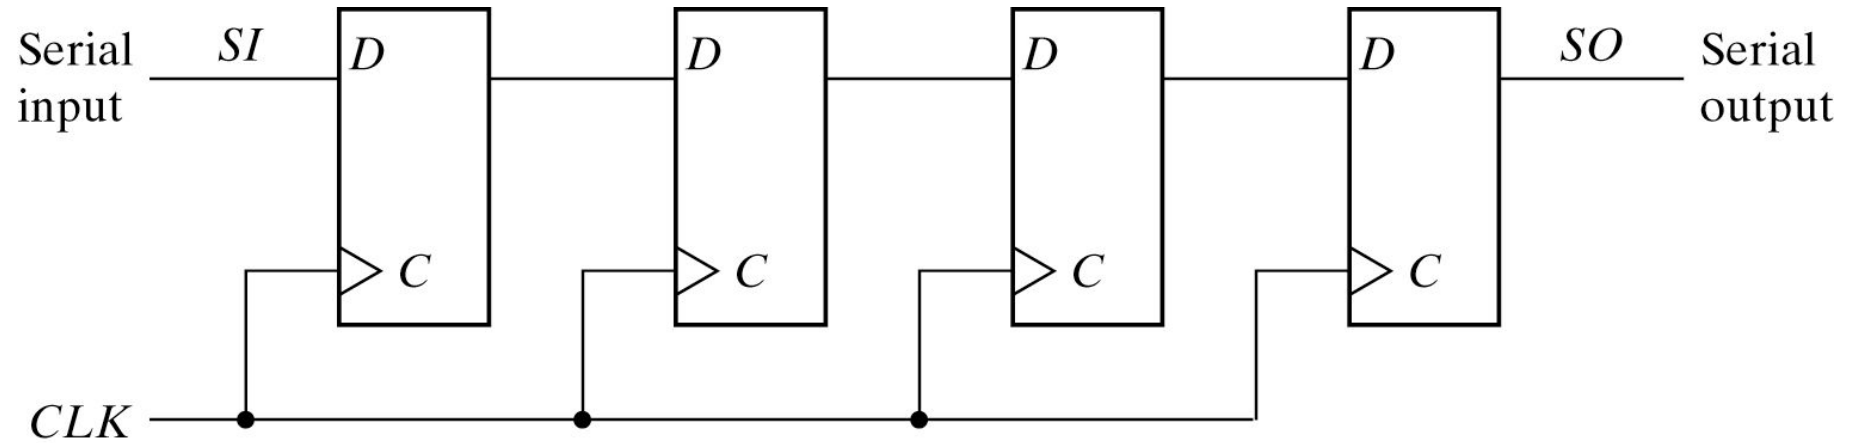

Fig. 6-3 4-Bit Shift Register
- The simplest possible shift register is one that uses only flip-flops, as shown in Fig. 6-3.